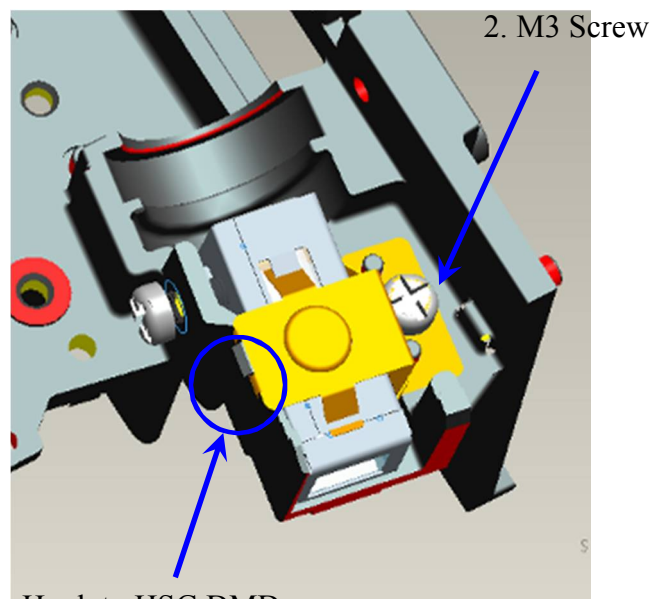

Fig. I-4
- iii. Hook Clip LP to HSG DMD, and lock with screw well. (Fig. I-4)
- i. Pre-assembly 2 adjusting screws. Criteria shown as (Fig. I-4)
- B. Refer to (Fig. I-4)
- a. Those 2 Adjustment Screws must be released closely to the “Pre-assembly” positions first (Fig. I-4)